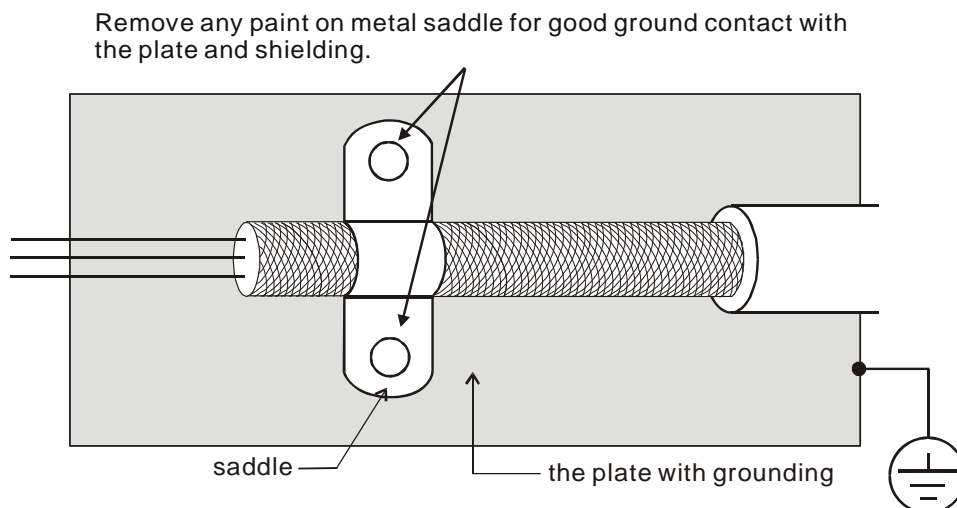

Figure 1
- ☑ Remove any paint on the metal saddle for good ground contact with the plate and shielding (see Figure 1).